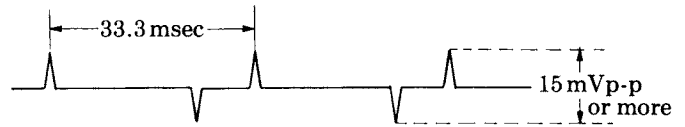

Fig. 76
4. Make sure that the waveform of the control head terminal becomes as shown in Fig. 76.